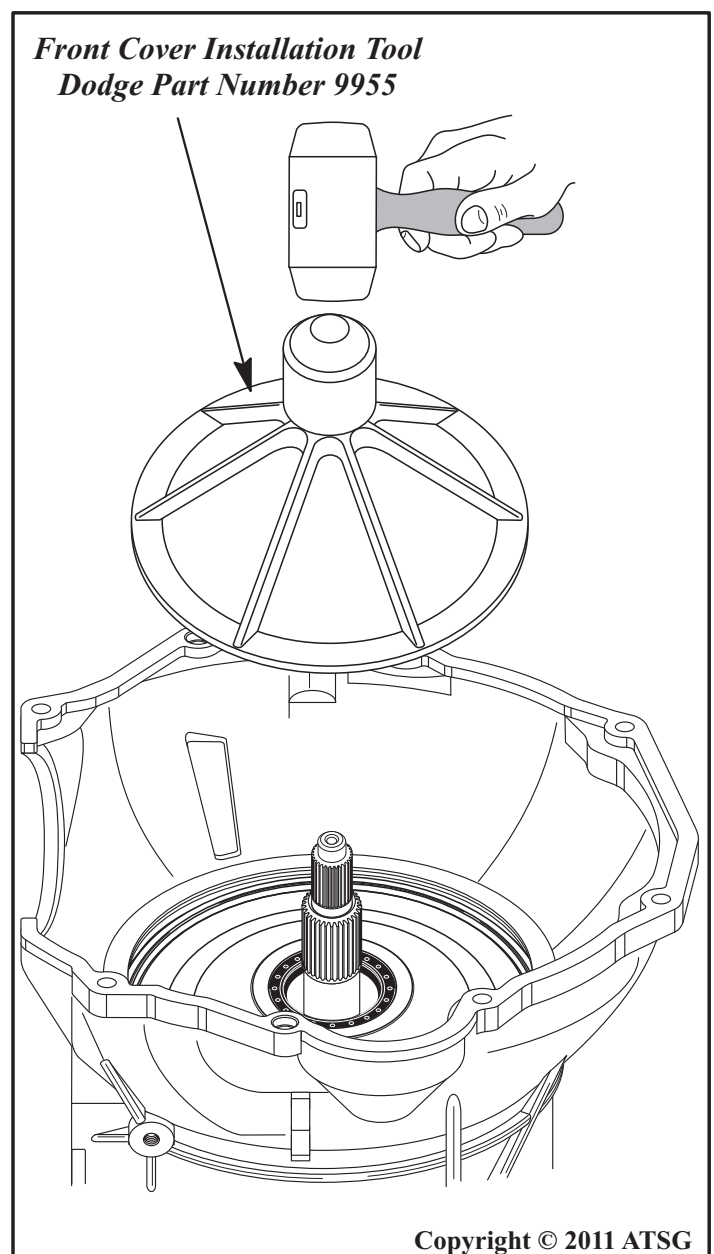

Figure 157
**Note:** Dodge has an installation tool available that allows this to be done without any damage to the front cover, as shown in Figure 157.